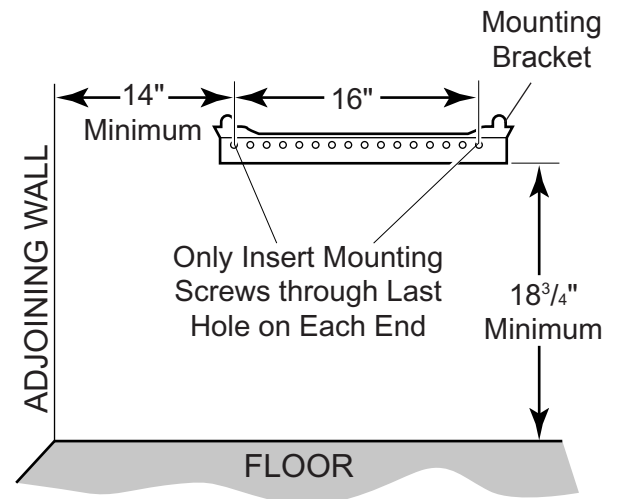

Figure 9 - Mounting Bracket Clearances Attaching Mounting Bracket To Wall
The mounting bracket is located in the package tray (see Figure 9). Remove mounting bracket from tray.
Only use last hole on each end of mounting bracket to attach bracket to wall. These two holes are 16 inches apart from their centers (see Figure 9). Attach mounting bracket to wall studs. This method provides the strongest hold. Insert mounting screws through mounting bracket and into wall studs.
WARNING	<p>Maintain minimum clearances shown in Figure 9. If you can, provide greater clearances from floor and joining wall.</p>
2. Mark screw locations on wall (see Figure 9).